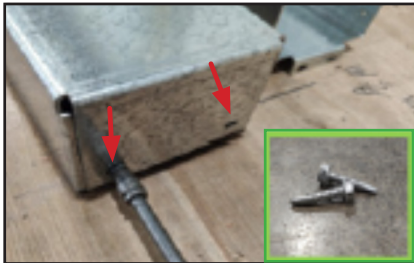

Fig. 45 Fasten rear of hat-section
4. Fasten the rear of each hat-section with 8-size Tek screws (2) provided (Fig. 45).